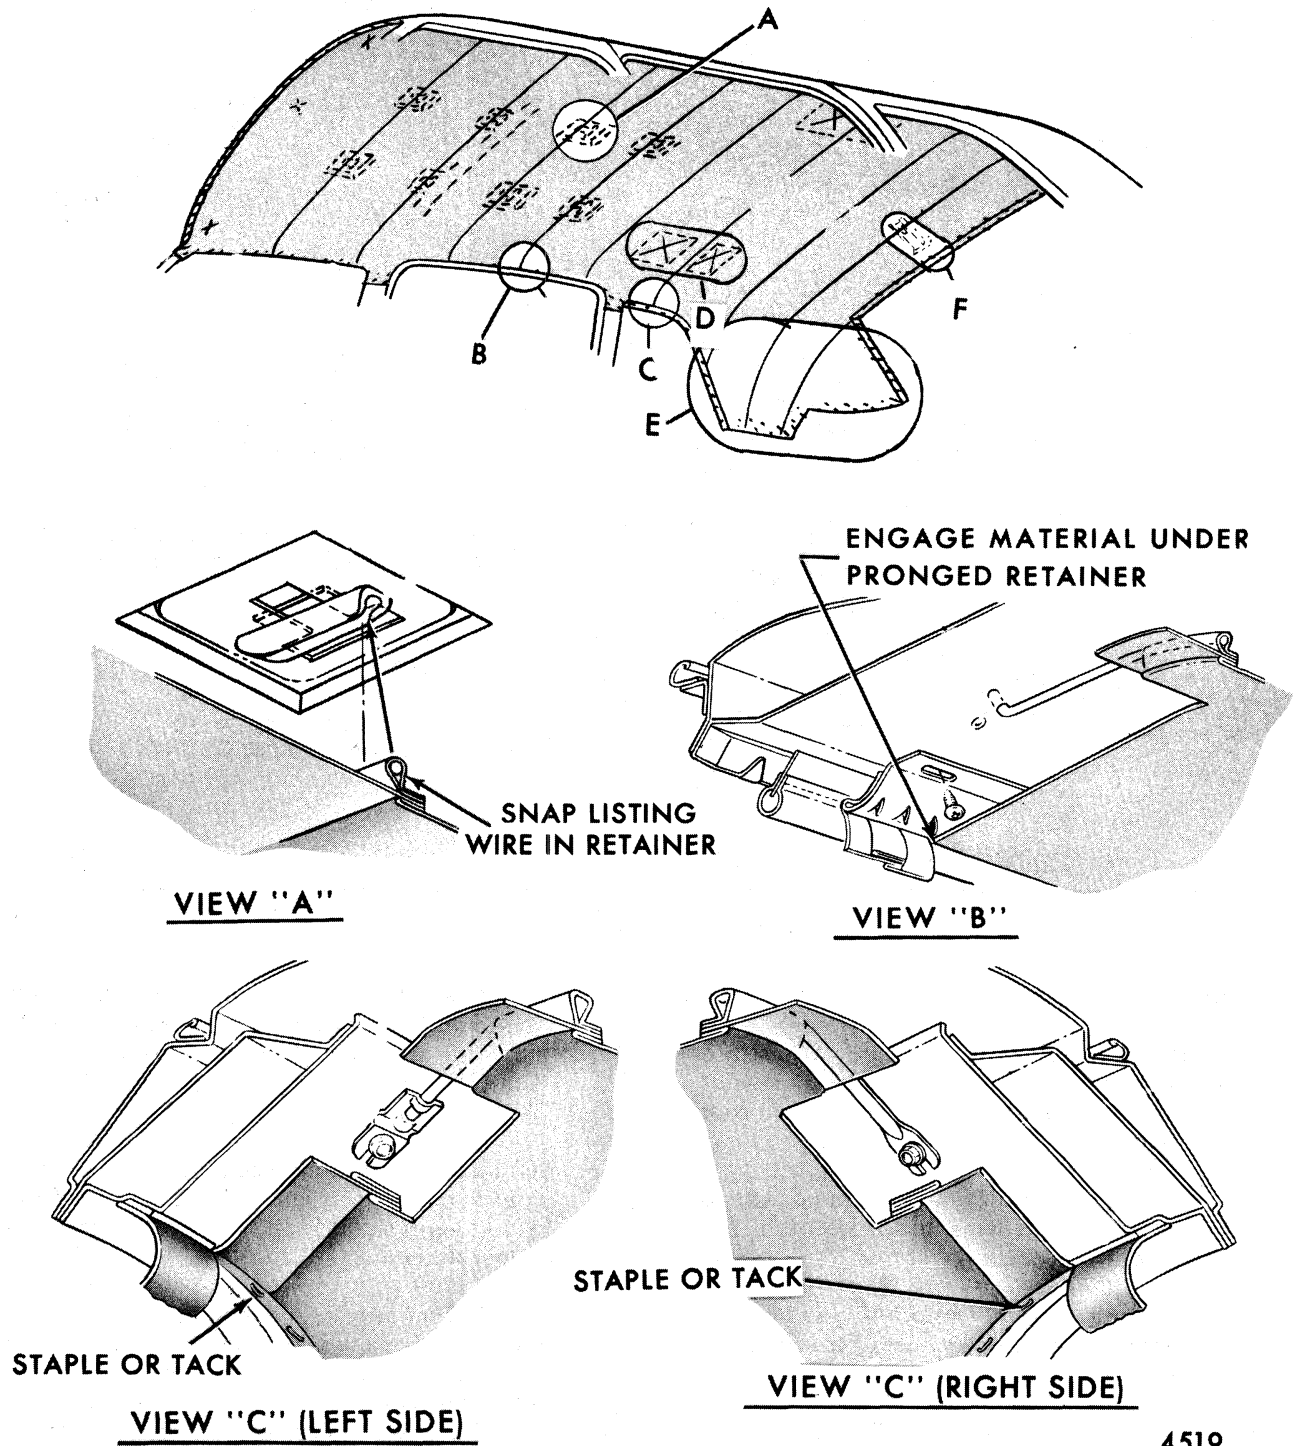

Fig. 8-4-Headlining Installation - "D" Body Styles
4. Use headlining inserting tool J-2772 (or equivalent) or similar wide-bladed tool and carefully disengage headlining from pronged retainers where present (see Fig. 8-4, View "B").
6. Starting at front of body, carefully disengage No. 1 and No. 2 listing wires from side roof inner rails and from plastic supporting clips on roof bows (see Fig. 8-4, View "A"). In like manner, working from rear of body, disengage listing wires from side roof rails and tabs above back window.
ing wires into plastic retainers on roof bows. Hook rear listing wire over tabs at back window and bend upward to secure. Working forward, install remaining listing wires (see Fig. 8-4, View "A").
NOTE: Listing wires may be adjusted up or down by utilizing appropriate holes in side roof rails. Listing wires should rest tight against roof panel after installation (see Fig. 8-4, View "B").